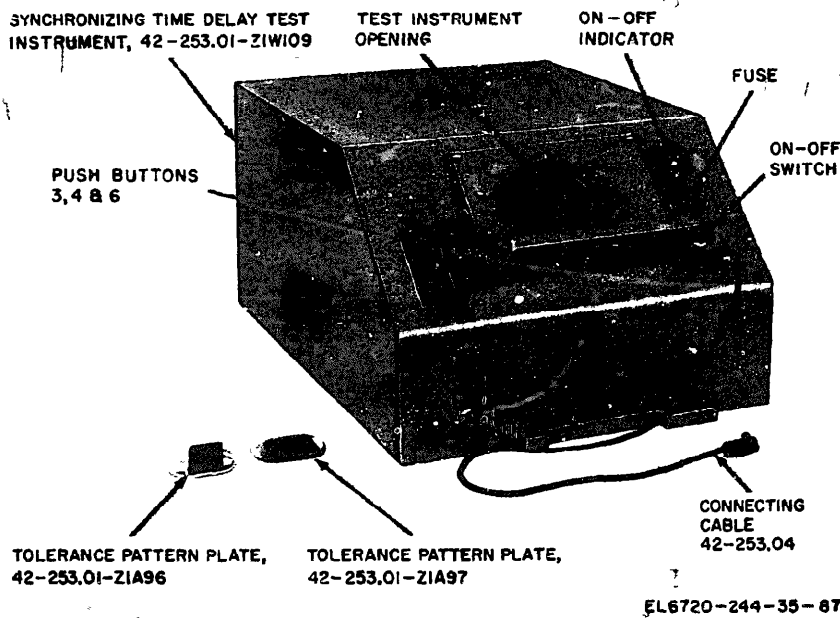

Figure 6-8. Equipment for camera synchronizing delay calibration.
*b. Test Equipment (fig. 6-8).* The check requires the use of the following test equipment: